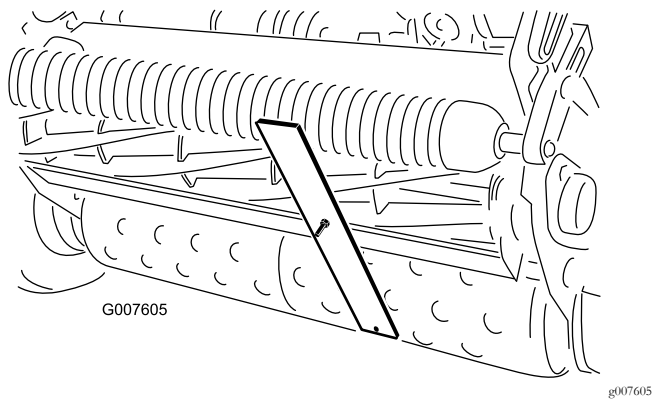

Figure 50
4. Hook the screw head on the cutting edge of the bedknife and rest the rear end of the bar on the rear roller (Figure 50).